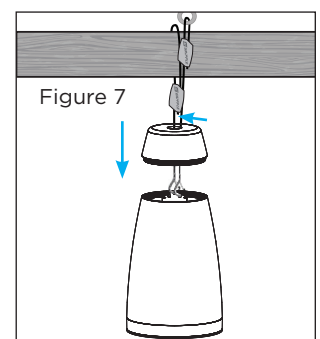

Figure 7
6. After height adjustment is final, trim any extra cable tail wires with trimmer suitable for 2mm (0.077”) diameter stranded aircraft-type cable. Screw back on top cover of speaker after speaker wire is connected (see Figure 7).